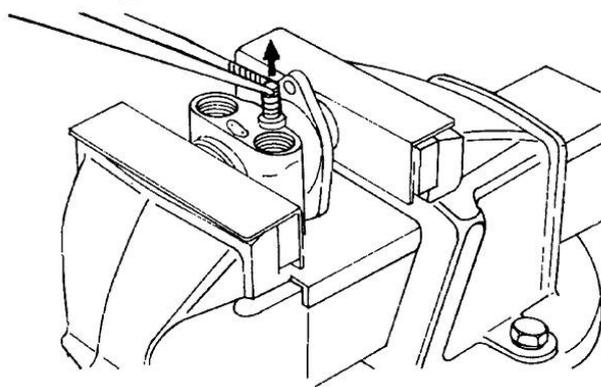

Figure 131 Removal of the Check Valve
- c. Remove the adapter and, using long-nose pliers, lift out both check valves and springs (Figure 131). Discard the O ring.